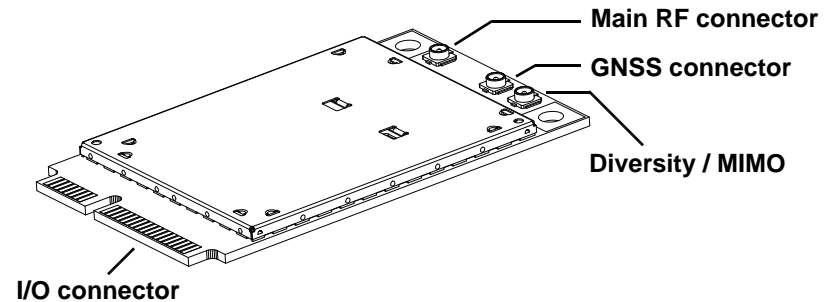

Figure 4-1: Module connectors
- Use Hirose U.FL connectors (3 mm x 3 mm, low profile; model U.FL #CL331-0471-0-10) to attach antennas to connection points on the module, as shown in Figure 4-1 on page 41.
- Connect to system ground using the two mounting holes at the top of the module (shown in Figure 4-1 on page 41).